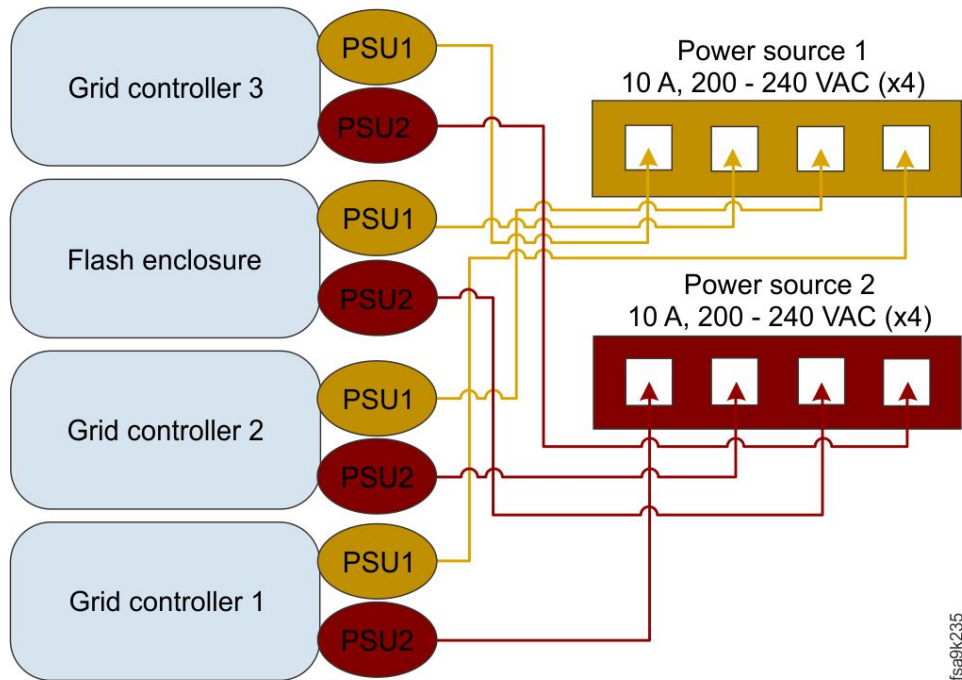

Figure 9. FlashSystem A9000 power sources
Two independent customer-supplied power distribution units (PDU) are required for the two power cords that are needed by each component in the system (total of eight outlets, four per PDU), as depicted in Figure 9 on page 21.
A FlashSystem A9000 system requires two independent power sources, with minimum four (4) 10 A, 200 – 240 VAC outlets (as seen in Figure 9).